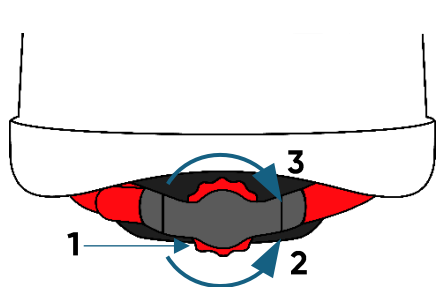

Fig. 1
The helmet features a stepped head circumference adjustment in 2 mm increments ranging from 53 cm to 63 cm. After putting on the helmet, adjust it to the head circumference by turning the adjustment knob (1) located at the rear of the helmet (Fig. 1). Turning counterclockwise (2) loosens, and turning clockwise (3) tightens the headband strap.